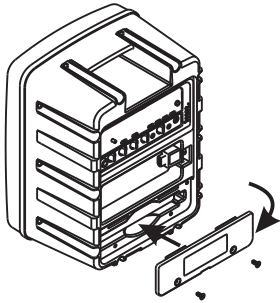

Fig. 34
- (D) Insert the replacement battery pack. Ascertain the connecting pins are connected firmly before inserting, Fig. 34.